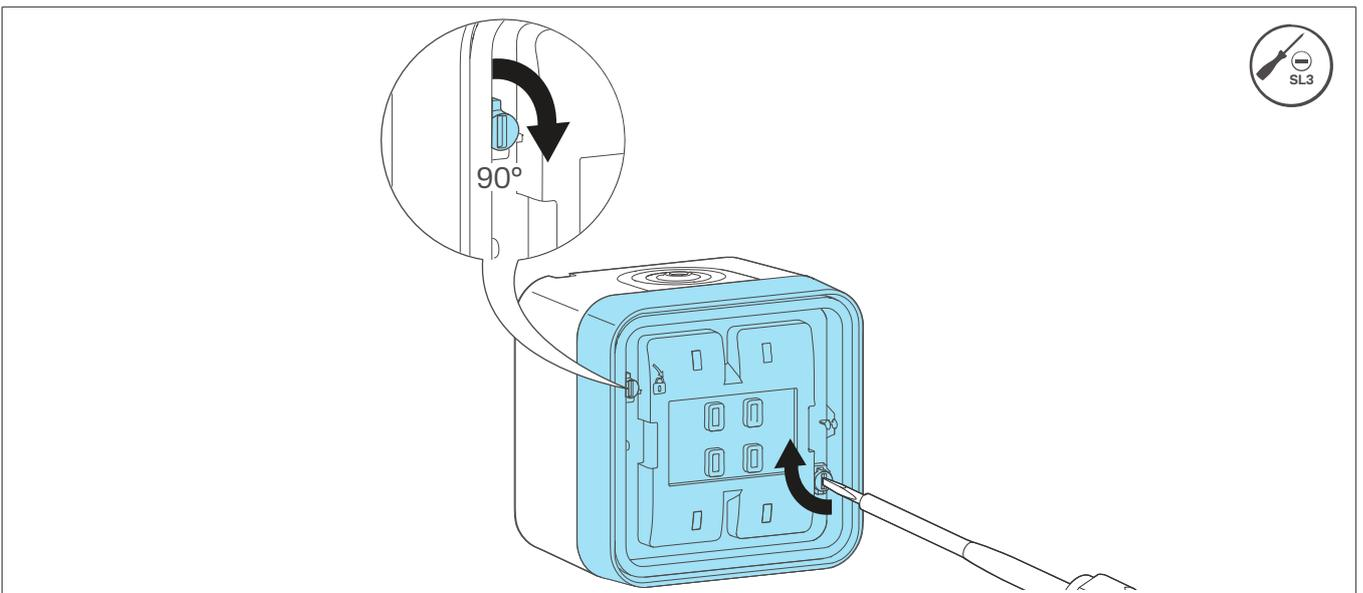

Fig. 12: Mount the cover frame
- 8 Lock the cover frame over the quick-release bayonet connectors (8) by a  $\frac{1}{4}$ - turn to the right with a screwdriver in the housing bottom part (Fig.12).